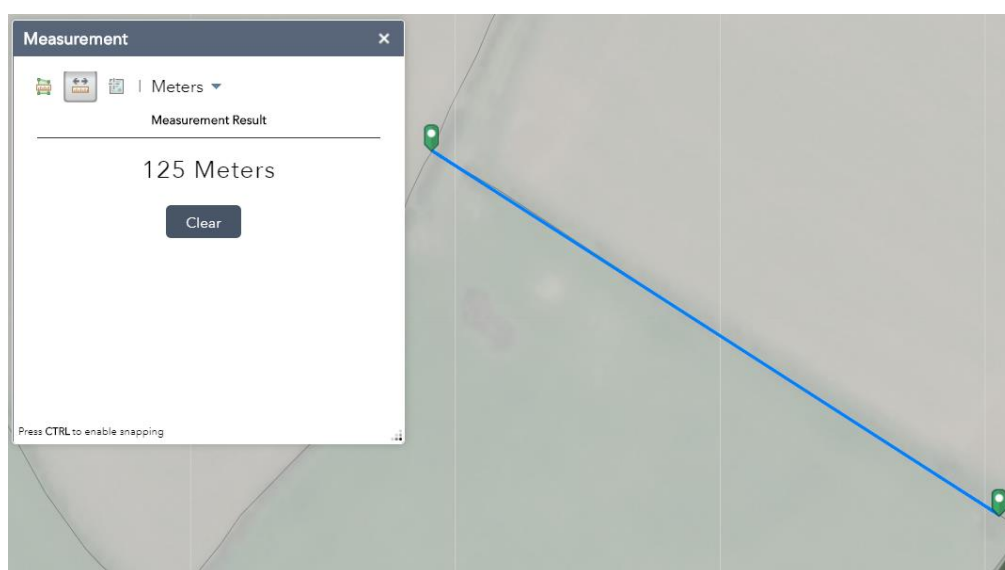

Figure 9. Example of using the line measurement tool to draw a temporary line measuring 125 m.
- i** To aid accurate digitisation of line and polygon features, you can use the Measurement tool (Figure 9) to first draw a line or polygon of the required length or area, respectively, in the correct location. Then, without clearing the newly drawn measurement feature, click on the Smart Editor widget, select the required template and then digitise a line intervention or polygon intervention on top of the measurement feature. Once your intervention has been digitised, you can click on the Measurement widget and then 'Clear' to remove the measurement feature.